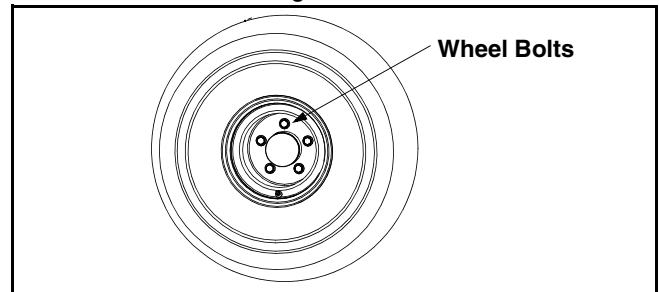

Figure 16
- Loosen but do not remove the five wheel bolts from the axle hub. See Figure 16.